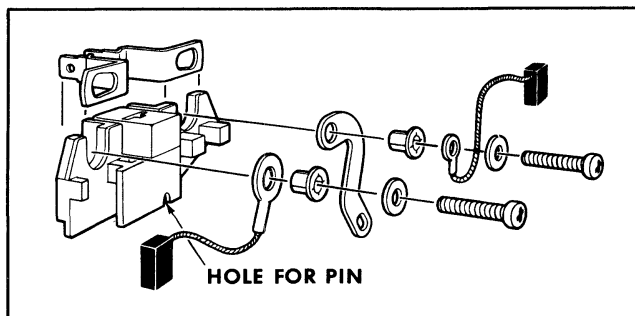

Fig. 11-21 Brush Holder Assembly
Remove brush holder assembly and brushes. Carefully note stack-up of parts (Fig. 11-21) for reassembly.
8. Attach the brush holder assembly into the end frame, noting carefully the stack-up of parts as shown in Fig. 11-21. Allow the wood or toothpick to protrude through the hole in the end frame and install stator lead to strap attaching nut and washer (Fig. 11-21).